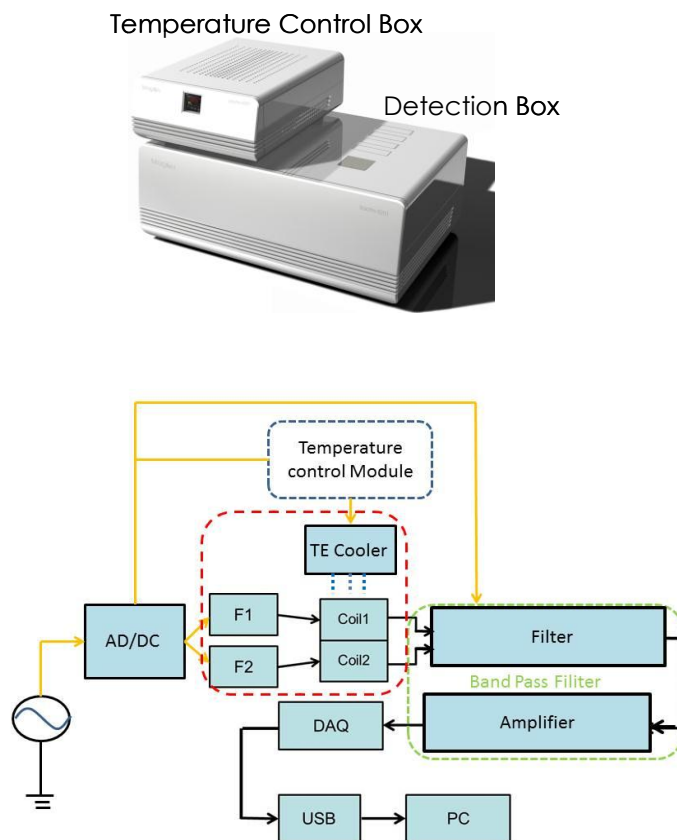

Fig. 1. Picture and scheme of XacPro-E301.
Picture and scheme of XacPro-E301 is as shown in Fig. 1. XacPro-E301 is consisted of two modules:
1. Detection Box (AC/DC, DSP, Coils, Amplifiers, Micro-Control unit and TE cooler indicated by Fig. 1)
2. Temperature Control Box (Electronics shown in Fig. 1)